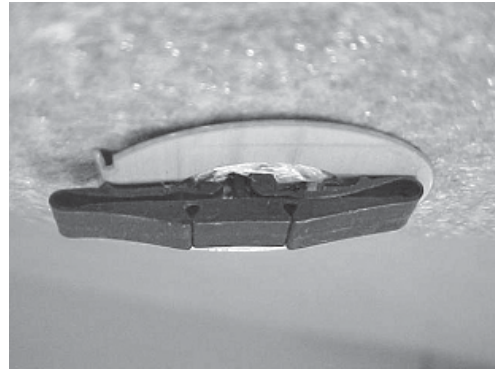

FIGURE 2
- 6) Using a pair of pliers with its jaws protected, compress the collapsible portion of the floor mat hook ensuring that the lock is engaged. (See figure 2 below.)